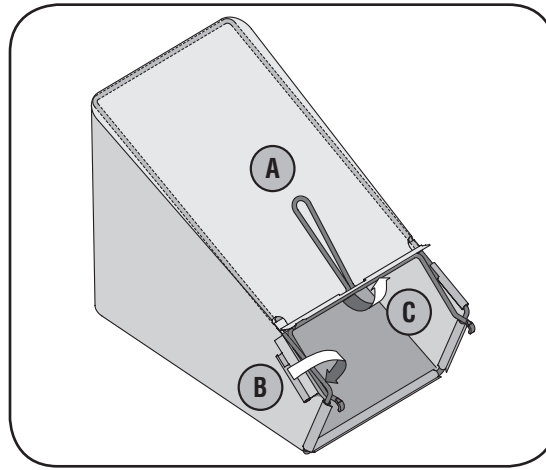

Figure 3-7
- a. Place bag over frame (black plastic side is the bottom of bag.) Insert the hooks on the frame through the holes in the side plastic channels of the bag. See Figure 3-7.
- b. Secure bag to frame by working the plastic channels on bag over frame as shown in Figure 3-7. All of the plastic channels except center top of bag attach from the outside of bag. Center top of bag attaches from the inside of bag.